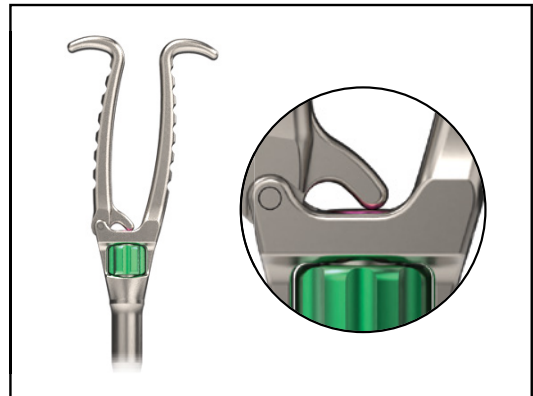

Figure 9.3
3. Squeeze the handles of the Housing Inserter together to deploy and lock the Dual Rod Housing to the Shank. If done correctly, the magenta indicator at the proximal end of the instrument should sit flush with the handle casing (Figure 9.3).